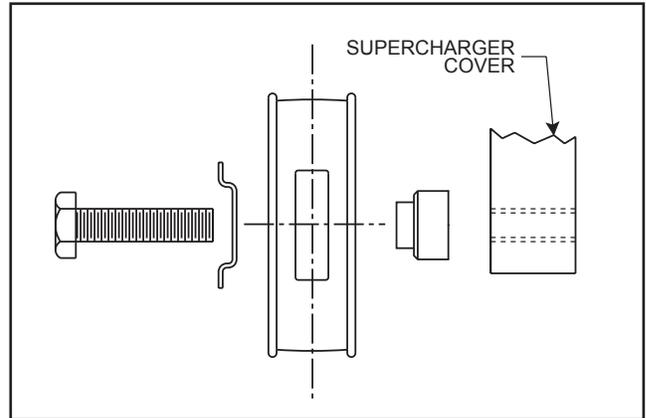

Fig. 5-a
- E. Install the supplied supercharger/accessory drive belt per Fig. 5-b.